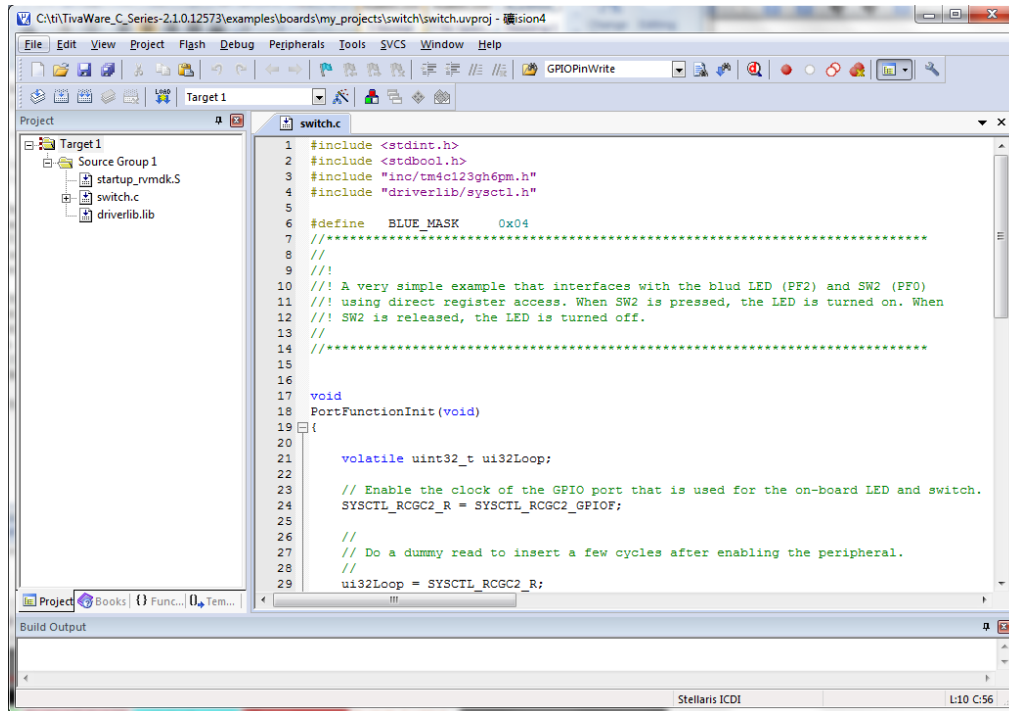

Figure 5
6. Select the *switch.uvproj* project file and click Open. The project opens in the IDE (see Figure 5).